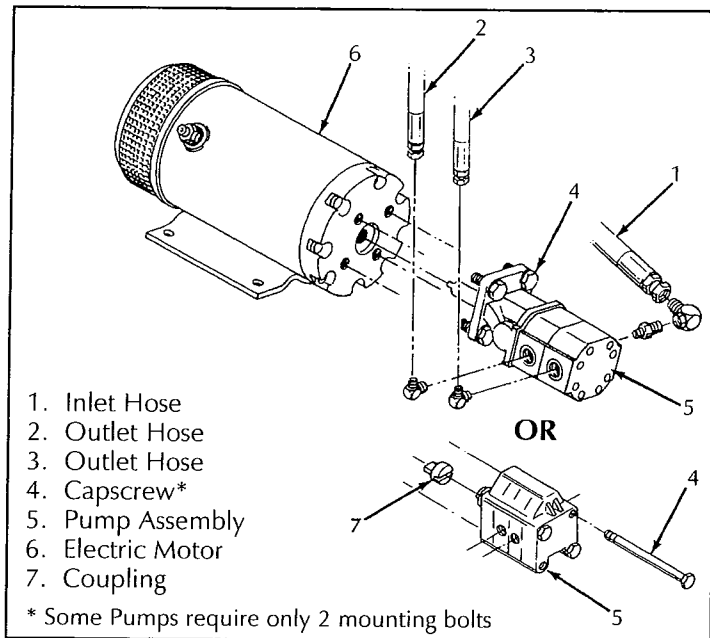

Figure 4-14: Hydraulic Pump
4.8 Hydraulic Pump (Figure 4-14)